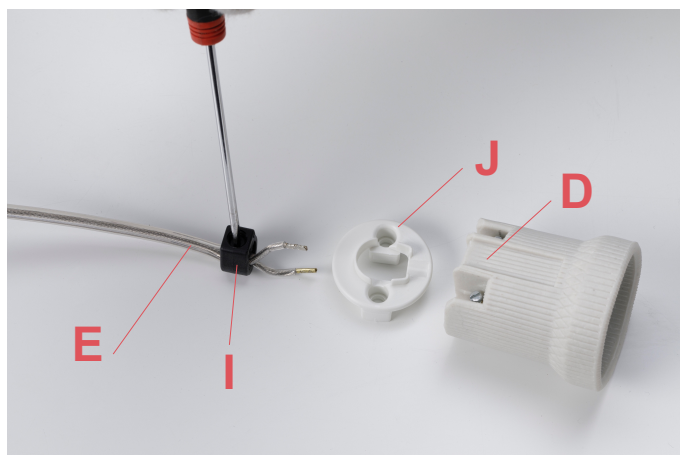

Fig.7
Unfasten the screw of the cable clamp (I). Slide-off from the electrical cable (E) the lamp holder (D), lamp holder support (J) and cable clamp (I). (Fig.7)
Connect the wires to the terminals (H) of the lamp holder (D) respecting the polarities and fasten the screw of the cable clamp (I). (Fig.7)